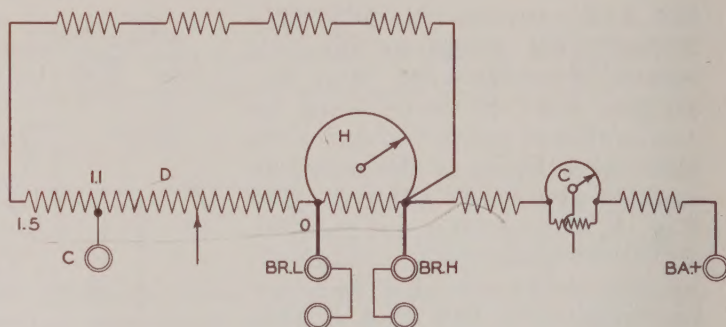

Fig. 7
16. TO CHECK SLIDEWIRE H (Fig. 7)
17. TO CHECK SLIDEWIRE C (Fig. 7)